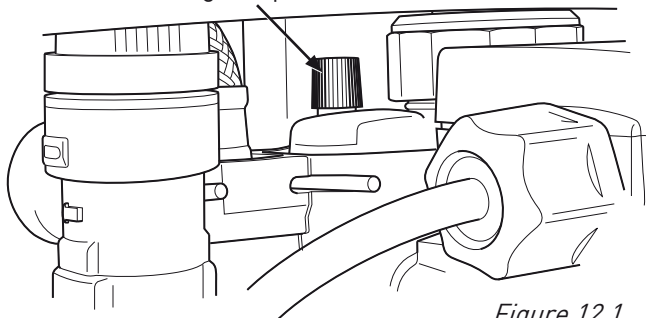

Figure 12.1
12.3 Release the cover cap of the boiler's automatic air vent situated on top of the pump. (*Figure 12.1*)